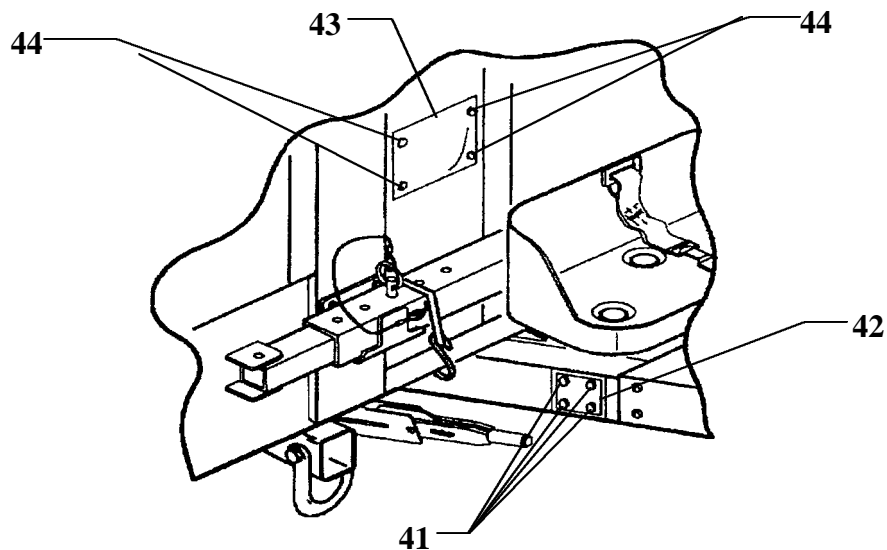

Figure 8
22. Drill out 4 ea rivets (**41 & 44**) from the trailer data plate (**42**) and the shipping data plate (**43**). (figure 8)